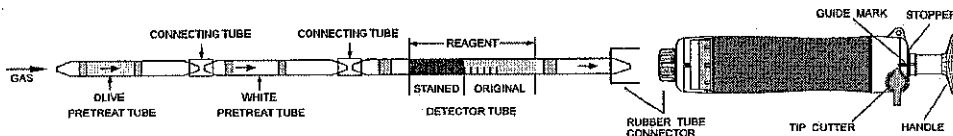

Fig.1
- ① Break both ends of the detector tube and pretreat tubes, and connect each end of the detector tube and pretreat tubes with connecting tube as shown in Fig.1.
- ② Insert the detector tube into the aspirating pump securely as shown in Fig. 1. (Arrow marks on the detector tube and pretreat tubes shall point to the pump.)
- ③ Align the guide marks on the shaft and stopper of the aspirating pump.
- ④ Pull the pump handle at a full stroke until it locks and wait for 2 minutes or until the completion of sampling is confirmed with the flow indicator of the pump (See descriptions about the flow indicator in the instruction manual of the pump).
- ⑤ On completion of sampling, read the scale at the maximum point of the stained layer.